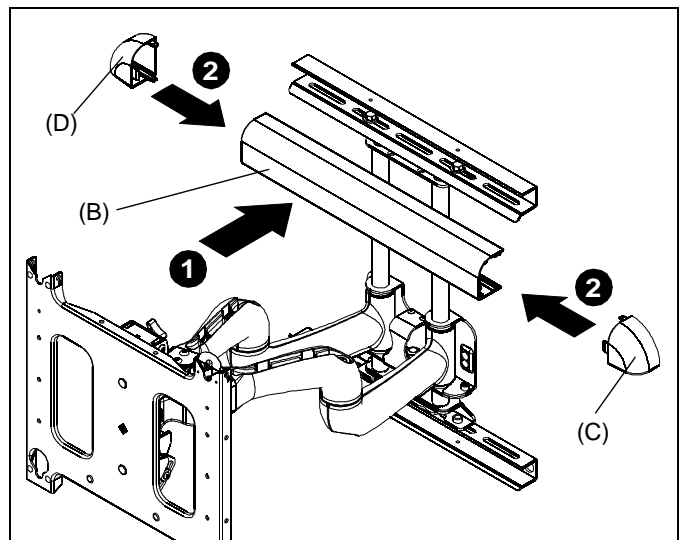

Figure 5
1. Install cover (B) over the top bracket. (See Figure 5)
2. Install end caps (C and D) into the cover and top bracket. (See Figure 5)
3. Repeat Steps 1 and 2 for the lower mounting bracket. (See Figure 5)